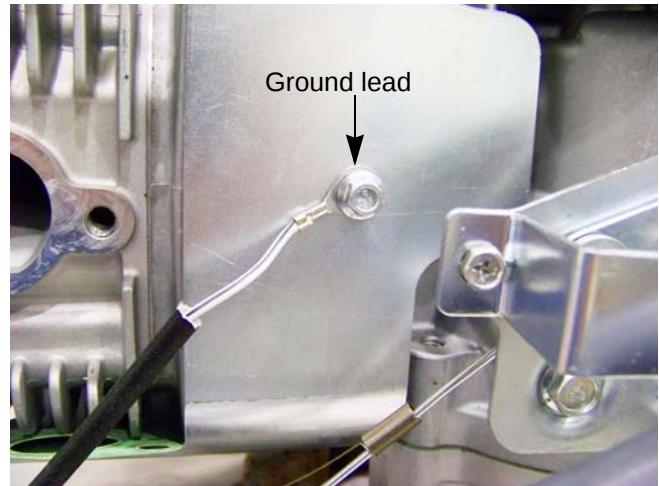

Figure 4.16
2. Disconnect the ground lead using a 10 mm wrench. See Figure 4.16.